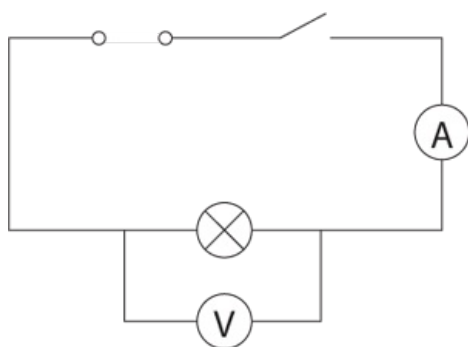

Figure 6.1: Circuit diagram.
- 2 Set up the circuit shown in Figure 6.1. The voltmeter should be set in the range 0–20 V. The ammeter should be set in the range 0–200 mA.